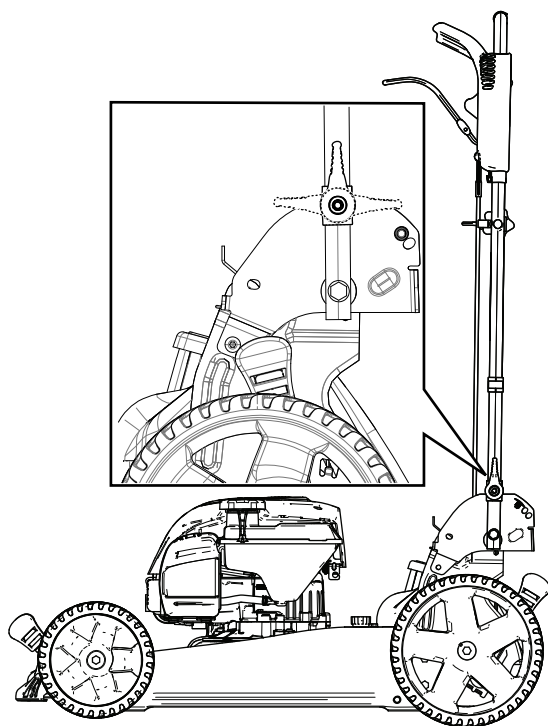

Figure 21
3. Fold the handle forward either to the vertical position or the fully forward position as shown in Figure 21.